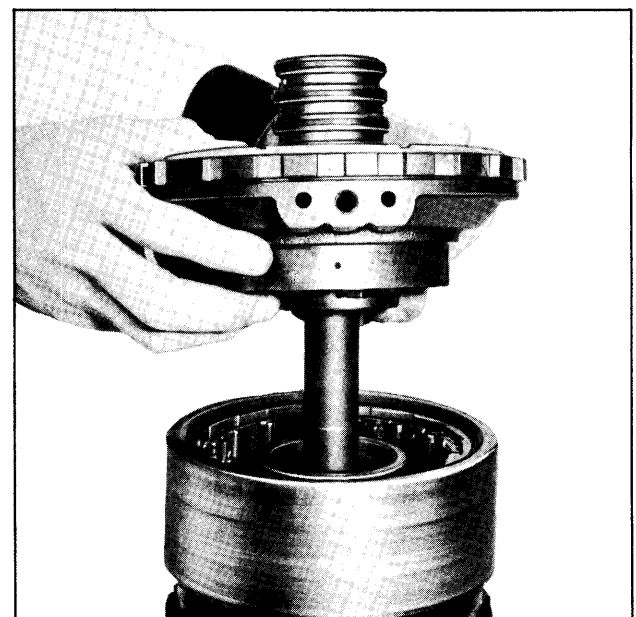

Fig. 7E-128 Installing Center Support
18. Install the case center support into roller clutch assembly. (Fig. 7E-128)